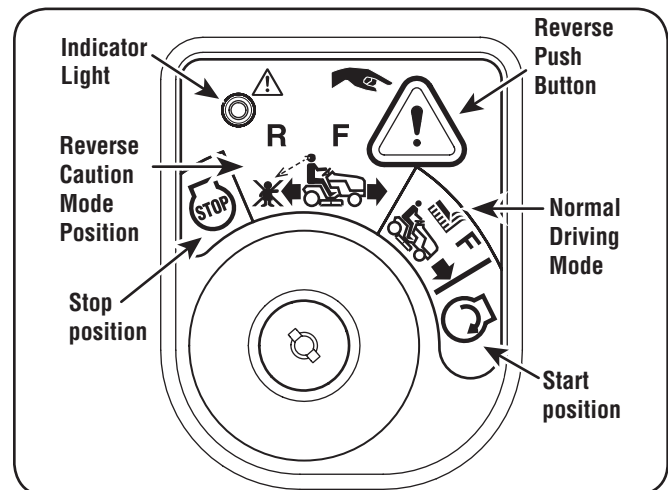

Figure 5-1
2. Turn the key from the NORMAL MOWING (Green) position to the REVERSE CAUTION MODE (Yellow) position of the key switch module. See Figure 5-1.